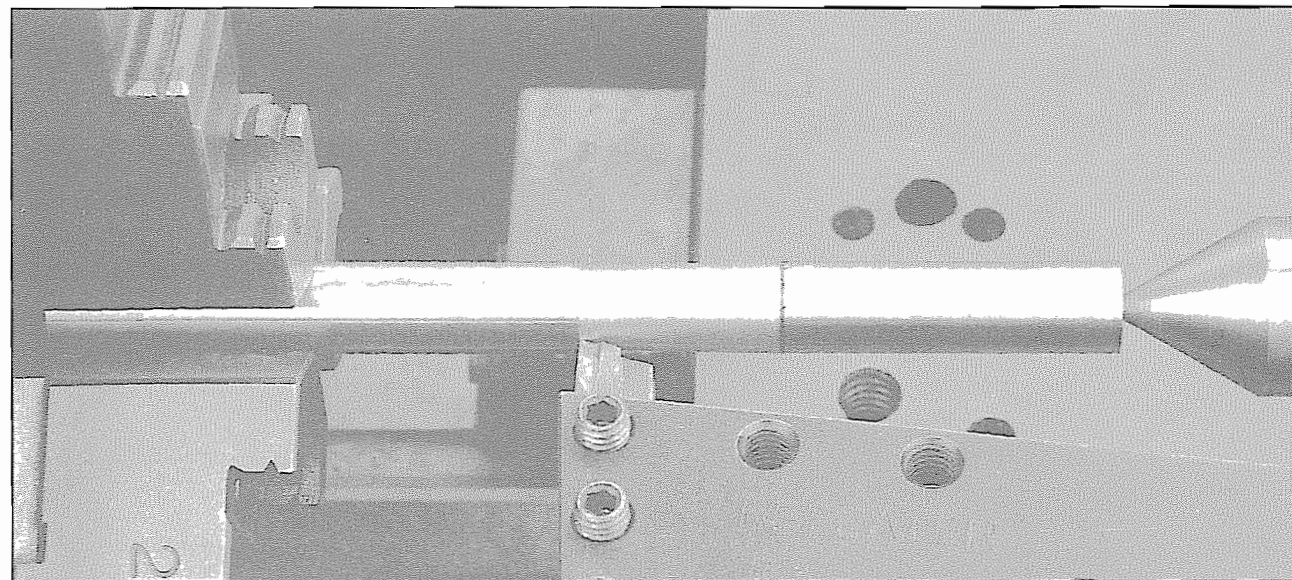

Figure 4-43. The first cut is made by hand feeding the lathe tool toward the headstock with the lathe's compound screw.
8. Remount the workpiece in the lathe chuck with the *base* end against the tailstock's live center, and not more than 4 inches of its length exposed between the chuck and the tailstock. Take up any slack with the tailstock screw, lock the screw in place, and *disengage* the lathe's carriage feed mechanism. Mount a *left-hand* cutting tool in the lathe's tool post, and turn the lathe on. Starting at the mark where the taper begins, lock the carriage in place, *hand-feed* the tool toward the headstock with the lathe's compound screw, and cut the taper *toward* the headstock as far as the compound will move (Figure 4-43).